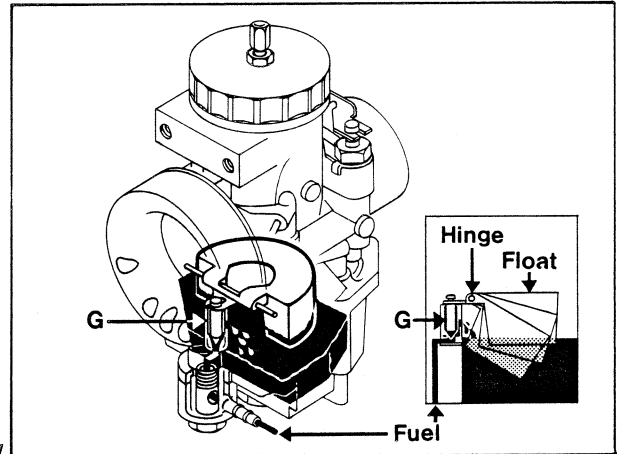

Fig. 3.1
Fuel flows through the needle valve (G) when the float is below the pre-set position. As the fuel level rises, so does the float and closes the needle valve. This procedure is repeated with the result that the fuel level in the float chamber of the carburettor remains constant. See fig. 3.1.